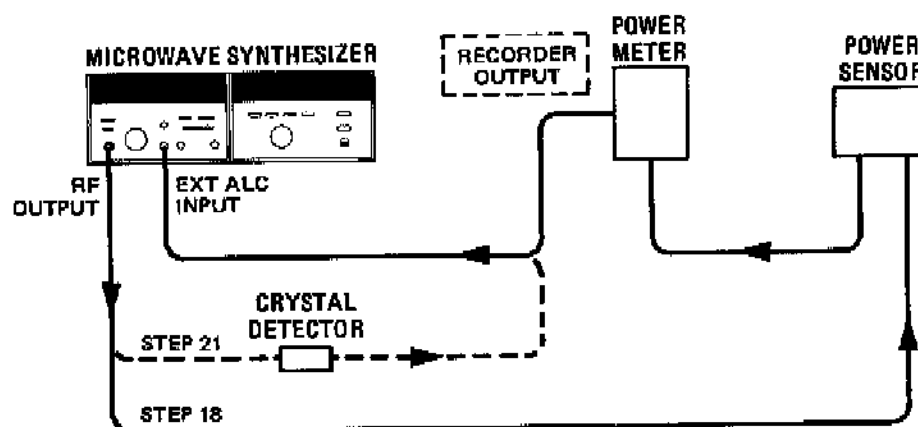

Figure 3-4. Operator's External ALC Checks Test Setup
18. Set the RF switch 27 to OFF and the ALC selector 17 to PWR MTR. Connect a power meter and power sensor as shown in Figure 3-4. The Recorder Output from the power meter may be either positive or negative polarity.
21. Connect a crystal detector as shown in Figure 3-4. Set the ALC selector 17 to XTAL.